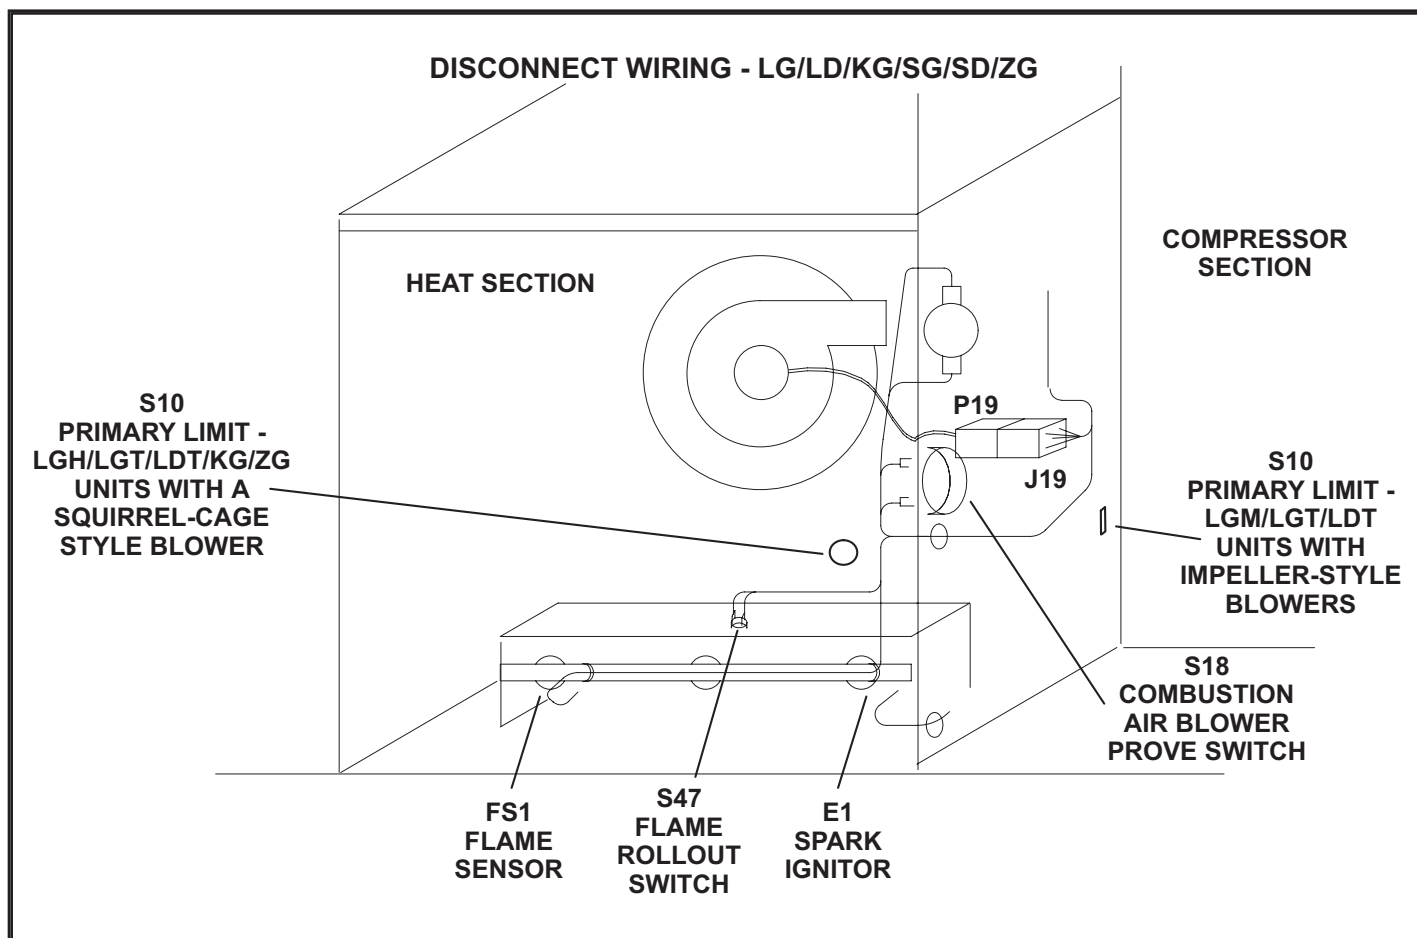

FIGURE 3
- 6 - Disconnect P19 from J19. See FIGURE 3.
- 7 - Disconnect wiring to ignitor, flame sensor, combustion air blower prove switch, and flame rollout switch. On LG/LD/KG/SG/SD/ZG units, disconnect wiring to the primary limit. See FIGURE 3.
- 8 - Remove the two screws securing the combustion air blower prove switch. Discard the switch if tabs are broken. Retain the switch for reassembly if tabs are intact. See FIGURE 3.
- 13 - Remove J19 from the division panel between the heat and compressor sections. See FIGURE 3.